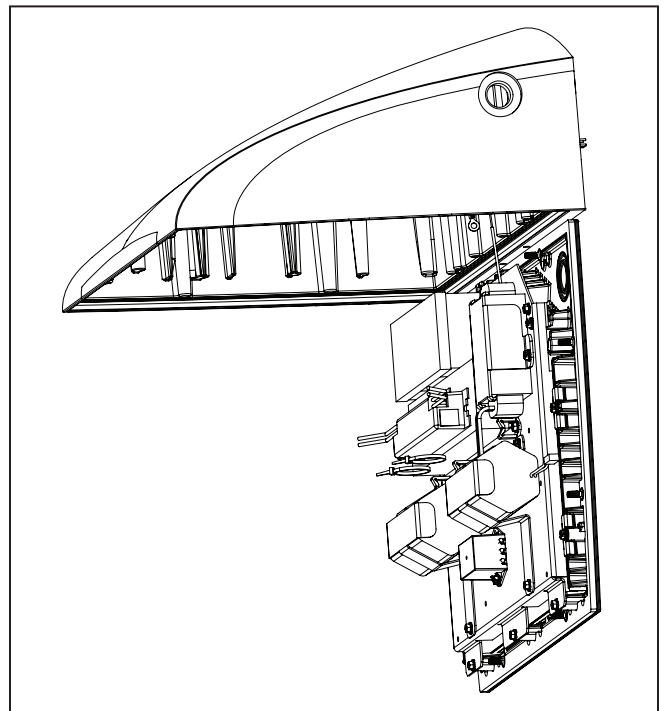

Figure 7.
7. Install the fixture door. Hang the door by the two ball end cables by routing the cables through the brackets (Figure 7). Make the wire harness plug connection from the top housing to the door.